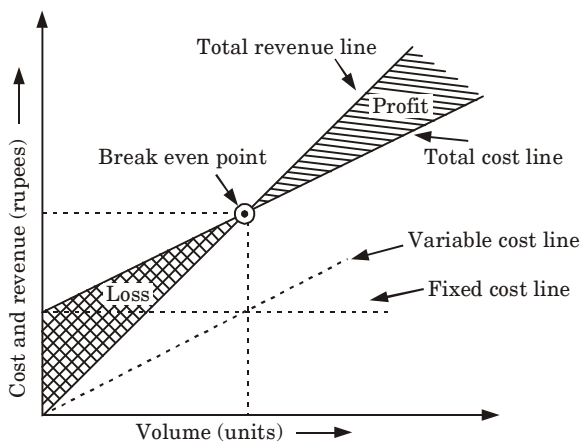

Fig. 3.6.1. Break-even chart.
3. A break-even chart is illustrated in Fig. 3.6.1.
5. In Fig. 3.6.1, the fixed cost line is horizontal and parallel to the x -axis. It indicates that fixed costs remain unchanged for any volume.
7. The total sales revenue line is drawn as shown in Fig. 3.6.1. This line indicates sales income at various levels of output.